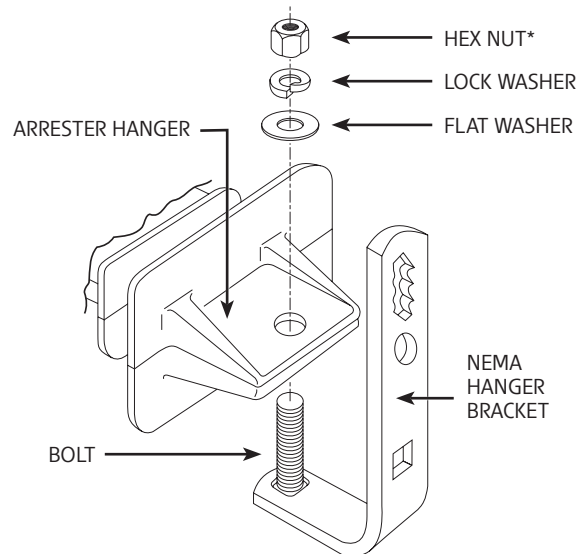
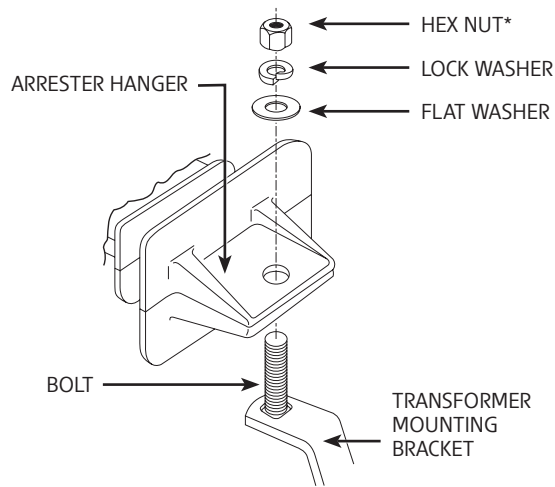

Figure 3. Installation of arrester to NEMA hanger bracket
Figure 4. Installation of arrester to transformer mounting bracket
1. Install all mounting hardware on the arrester. Torque the hanger bracket hex nut between 20 and 25 ft-lbs. See Figure 3 for NEMA brackets and Figure 4 for transformer brackets.